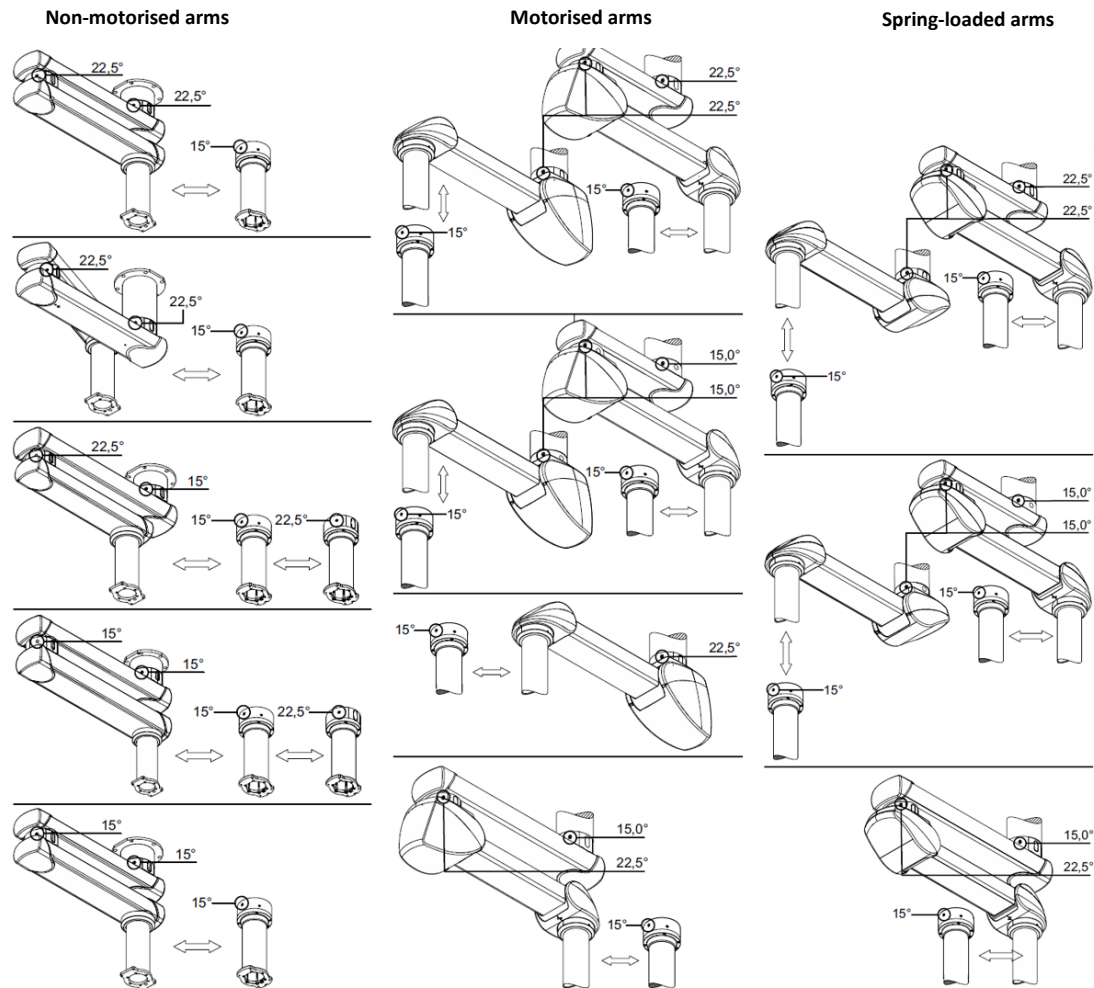

Fig.3 Adjustment of the rotary stops
- For double arm versions with friction bearing in between, it is recommended to fit 2 ball stops (3) (see Fig. 3). The detailed illustration shows the intermediate bearing (11) (without outer ring) and the position of the stop screw (1) in the ball stops (3).
When adjusting the end stop as illustrated in Figure 3, the dead centre area is 45°. This means that the spring arm (3) has a maximum range of movement of approx. 315°. If the minimum setting on the end stop is not defined while adjusting the brakes on the intermediate bearing (11) and the ceiling bearing
(10), it is quite difficult to bend the suspension system from the stretched position (12) and rotate it on the intermediate bearing (11) of the spring arm (3).